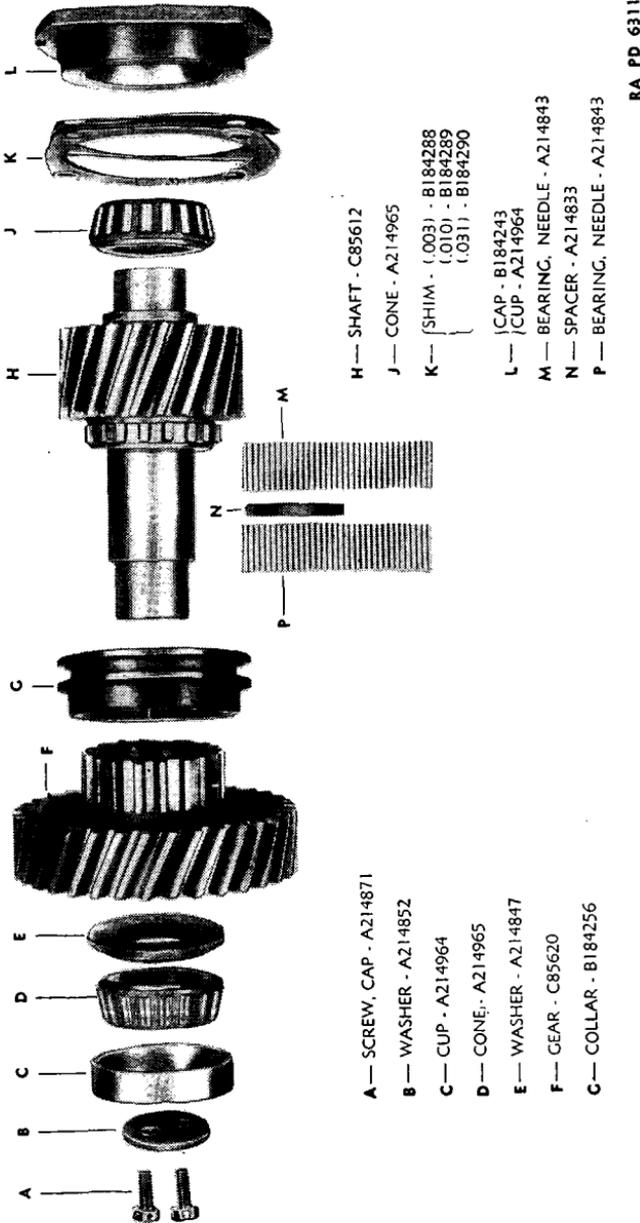

Figure 117.—Transfer case intermediate shaft, exploded.
ers (BECX1L) holding intermediate shaft rear bearing cap (B184243) to case, and pry off cap and shims (B184288, B184289, and B184290, fig. 117).
(10) Remove intermediate shaft front bearing cone retainer washer—cutting pliers,  $\frac{9}{16}$ -inch socket wrench. Remove locking wire and two cap screws (A214871) from front end of intermediate shaft and remove bearing cone retainer washer (A214852) (fig. 117).
(12) Remove intermediate shaft bearing cups—brass drift, hammer. Drive cups (A214964) out of front end of case and out of rear bearing cap (fig. 117).
(13) Remove mainshaft companion flange—cutting pliers, 1½-inch socket wrench, puller. Remove cotter pin (BFAX1DM), slotted nut